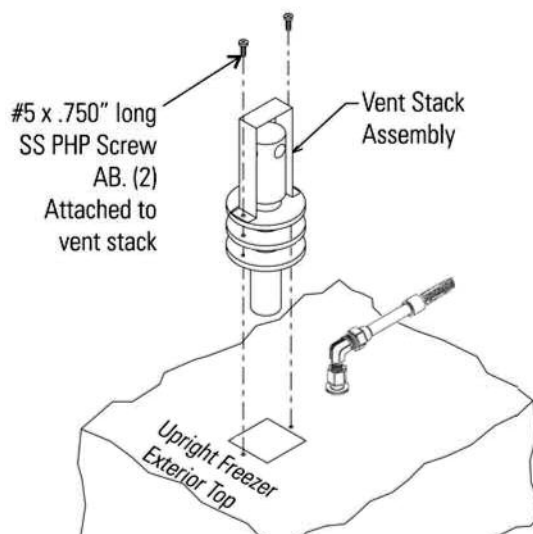

Figure 5-2. Vent Stack Assembly
6. Install the vent stack (Figure 5-2) through the opening and secure it to the top of the freezer, using screws.